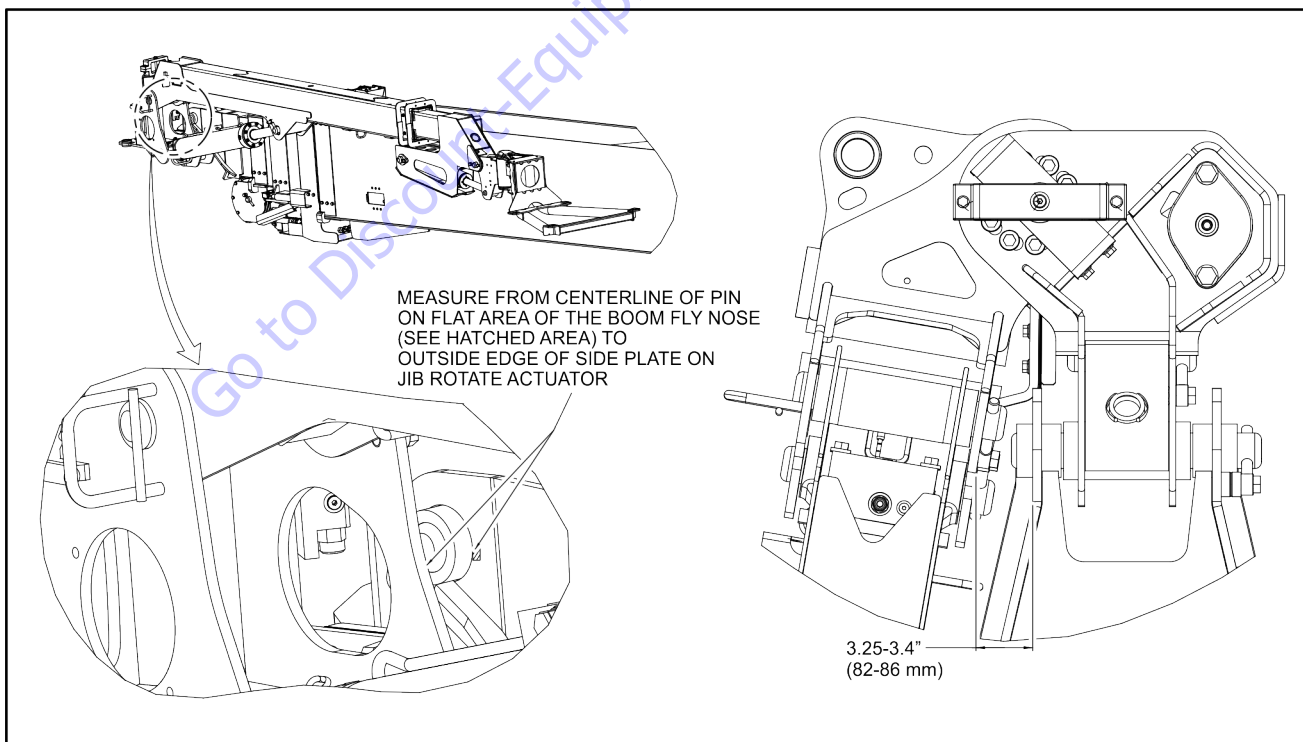

Figure 4-38. Jib Stow Shimming Measurements
4. Shim until the distance between the jib and the side of the base boom reaches the dimension shown in Figure 4-38., Jib Stow Shimming Measurements.